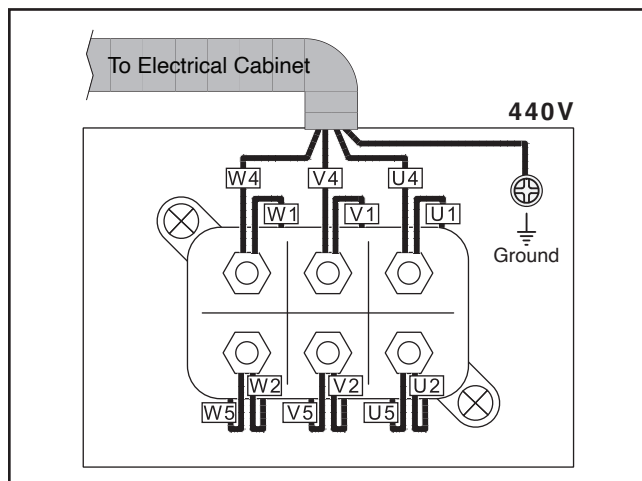

Figure 20. Table elevator motor wiring (440V).
22. Disconnect wire W5 and move to terminal with wire W2, as shown in **Figure 20**.
23. Disconnect wire V5 and move to terminal with wire V2, as shown in **Figure 20**.
24. Disconnect wire U5 and move to terminal with wire U2, as shown in **Figure 20**.